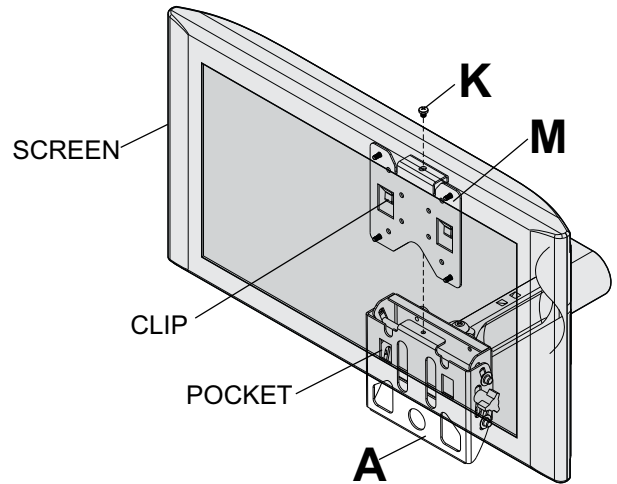
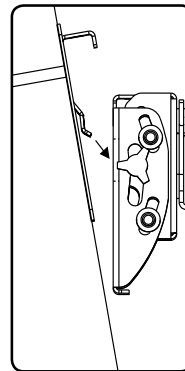
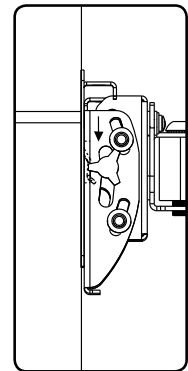

fig. 3.3
fig. 3.1
fig. 3.2
- 3** To attach screen to wall mount (**A**), lower hook bracket (**M**) with screen at an angle into pockets of wall mount as shown in figure 3.1. Once clips are engaged, push down to seat clips in pockets as shown in figure 3.2. Insert and tighten M5 phillips screw (**K**) to lock screen to wall mount as shown in figure 3.3.